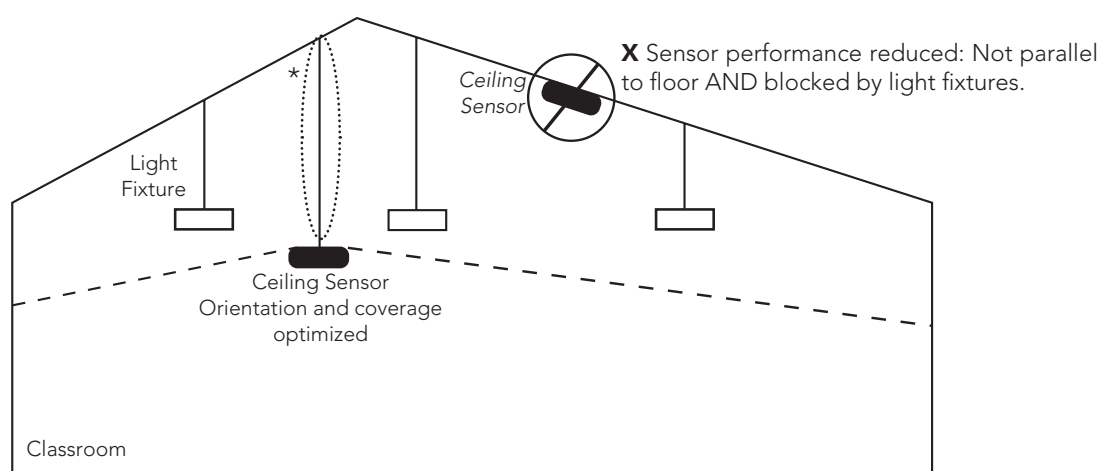

Figure 2: Ceiling Sensor Installation
- b. The ceiling sensor must have a clear view of the coverage area and must be mounted parallel to the floor to function optimally (figure 2). If drop lights are used in the room, wall sensors may be a better option. Or, a drop mount* may be used to lower the ceiling sensor.